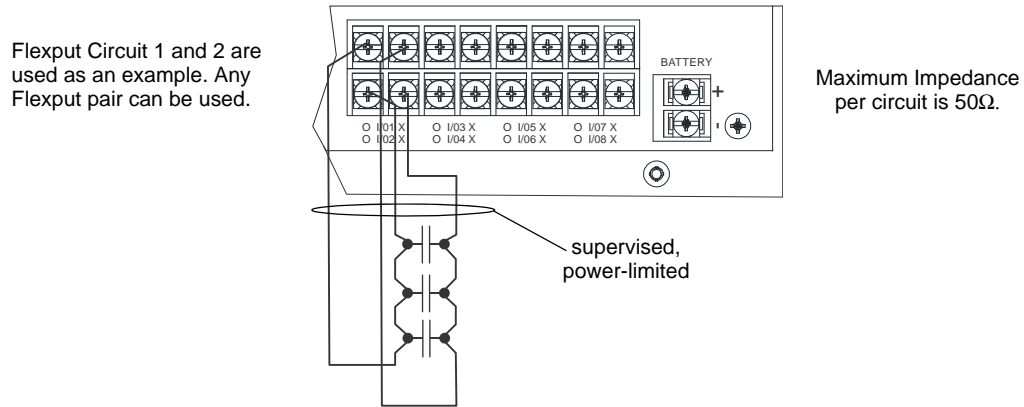

Figure 4.47 Class A Initiating Switches
1. Wire the Class A switch as shown in Figure 4.47.
**NOTE:** In programming any point that uses multiple Flexput circuits, the lowest Flexput circuit number is used to refer to the circuit pair. For example, Figure 4.47 uses both Flexput circuit 1 and 2, so in programming it would be referred to as point 1.